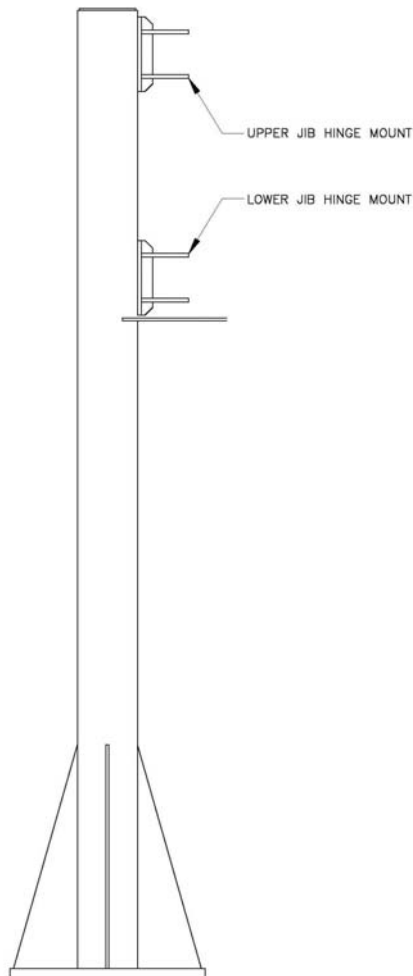
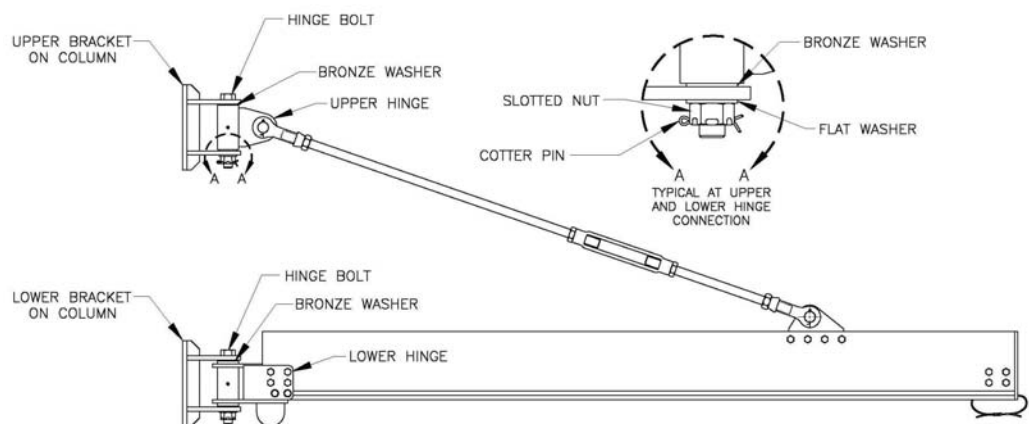

Figure 1 --Jib Column Assembly
Figure 2 --Jib Crane Assembly
■ All standard ETA jibs are shipped in (2) pieces, Jib Column Assembly (see figure 1) and Jib Crane Assembly (see figure 2).
4. Attach lower hinge to lower jib hinge mount as shown in figure 2.
6. Attach the upper hinge to the upper hinge mount as shown in figure 2.